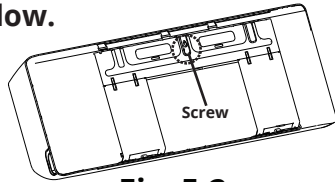

Fig. 5.2
1. Remove the screw that attaches the mounting plate to the back of the indoor unit. **Refer to Fig. 5.2 below.**